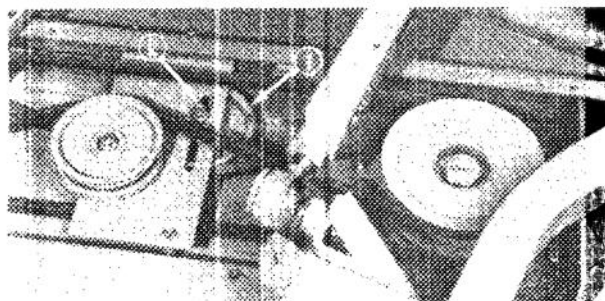

Figure 25
4. Mount a belt on lower pulley groove of left spindle, slide belt under belt idler mount plate and install around center spindle pulley. Tension belt by levering idler pulley against belt and tighten idler pulley flange nut (Fig. 25).